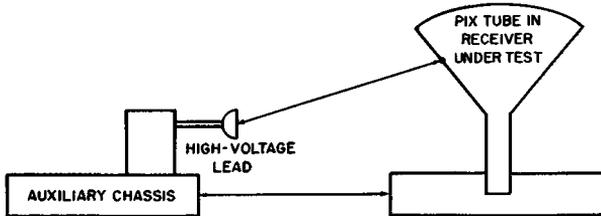

Fig. 5-5. High-voltage substitution test.
current is demanded. If the high-voltage rectifier tube is good, look for (1) a series resistor in the second-anode circuit (if used) that has increased in value, (2) a leaky high-voltage filter capacitor, (3) heavy corona which is bleeding current from the high-voltage circuit, (4) a defective high-voltage rectifier socket, or (5) partial breakdown in the high-voltage winding of the flyback transformer. The output from the high-voltage circuit is measured with a DC high-voltage probe and a VOM or VTVM. It is easy to make a high-voltage substitution test as shown in Fig. 5-5; just use the high voltage from another TV chassis.